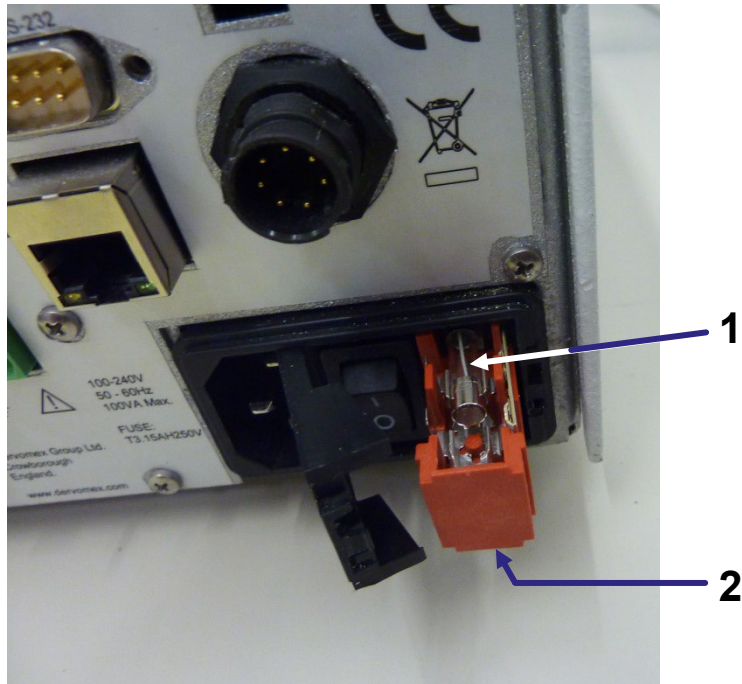

Figure 8-3: Pull out the red fuse holder
2. Pull the red fuse holder out of the panel (Figure 8-3).
Both live and neutral lines have fuse protection. The neutral fuse is shown (1 in Figure 8-3); the live fuse is located in the underside of the red fuse holder (2 in Figure 8-3).
Make sure you fit the fuse in the correct position in the fuse holder as shown in Figure 8-3.